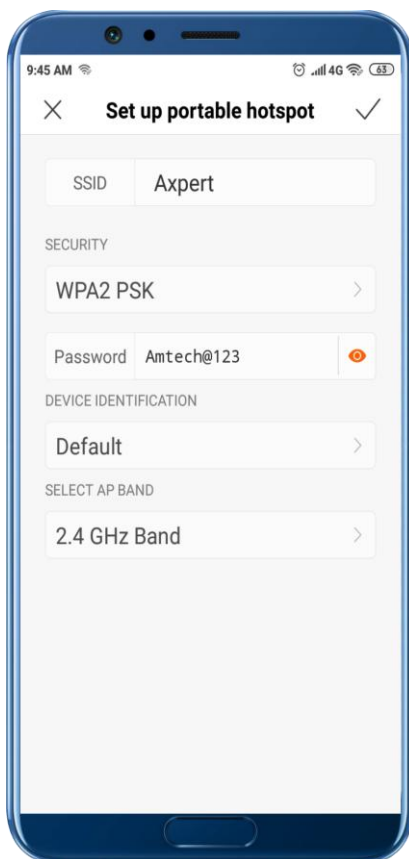

Figure 7: Hot-spot configuration
- For product to be discovered by the application, set your Wi-Fi hotspot’s SSID to **Axpert** and your password to **Amtech@123** (Figure 7). Changes in SSID and password are not possible.